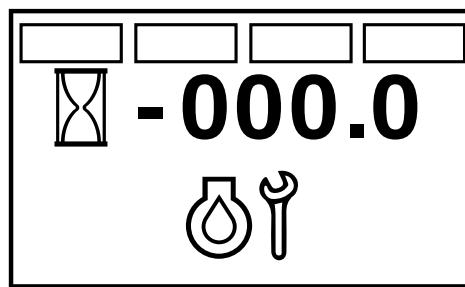

Figure 38
2. Cycle the key switch between the RUN position and the OFF position 4 times within 8 seconds. The Service Engine screen displays and flashes (Figure 38).